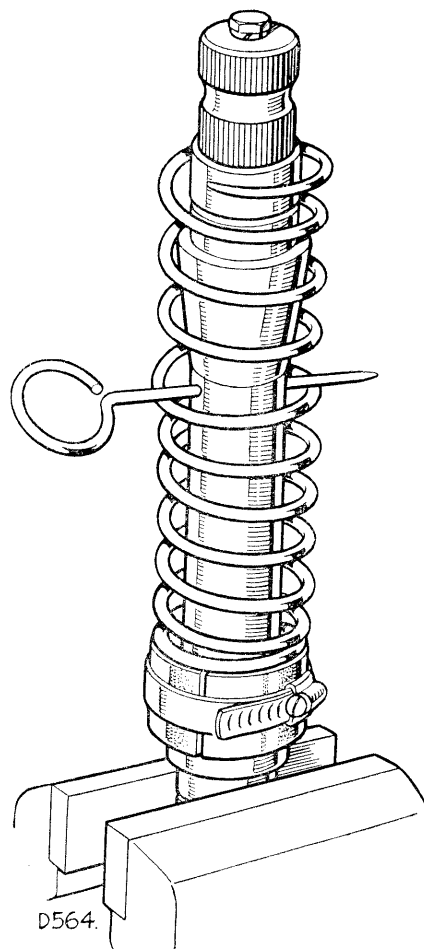

Fig. G-8—Compressing steering relay spring
5. Place the spring over the shaft and insert the special tool (Part No. 510309) through the coils of the spring and right through the lubrication cross-drilling in the shaft. See Fig. G-8.